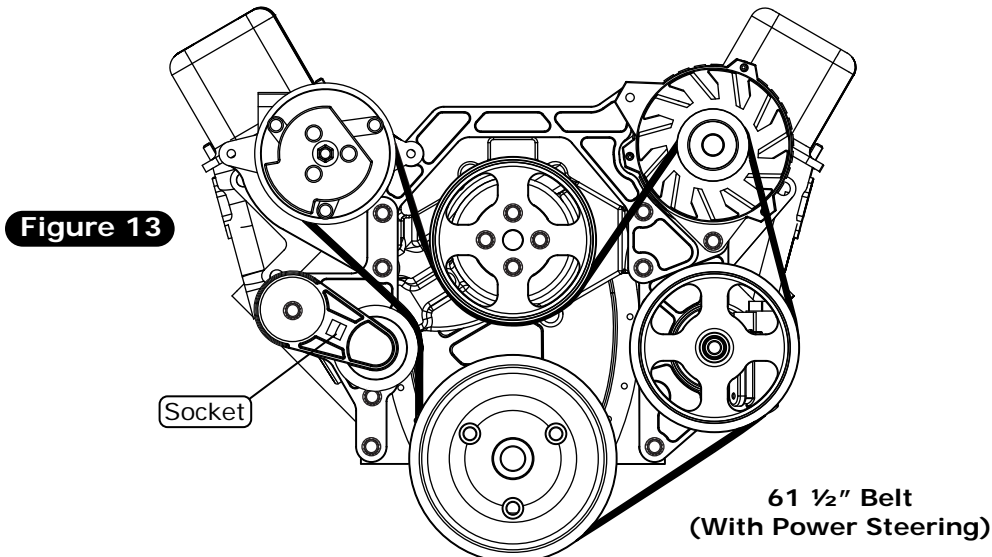

Figure 13
1. Insert a 1/2"-drive ratchet or breaker bar into the socket on the tensioner, and rotate it clockwise to the tensioner stop. Route the belt around the crankshaft pulley, power steering pulley and alternator, and over the compressor. Finally, pull the belt down and slide it under the water pump pulley (See Figure 13, below).